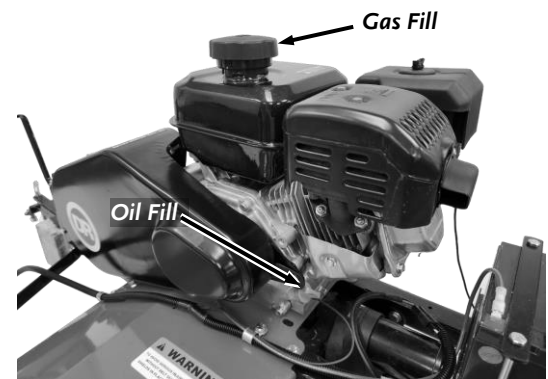

Figure 8
1. Place the machine on a level surface and remove the Oil Fill/Dipstick (**Figure 8**).